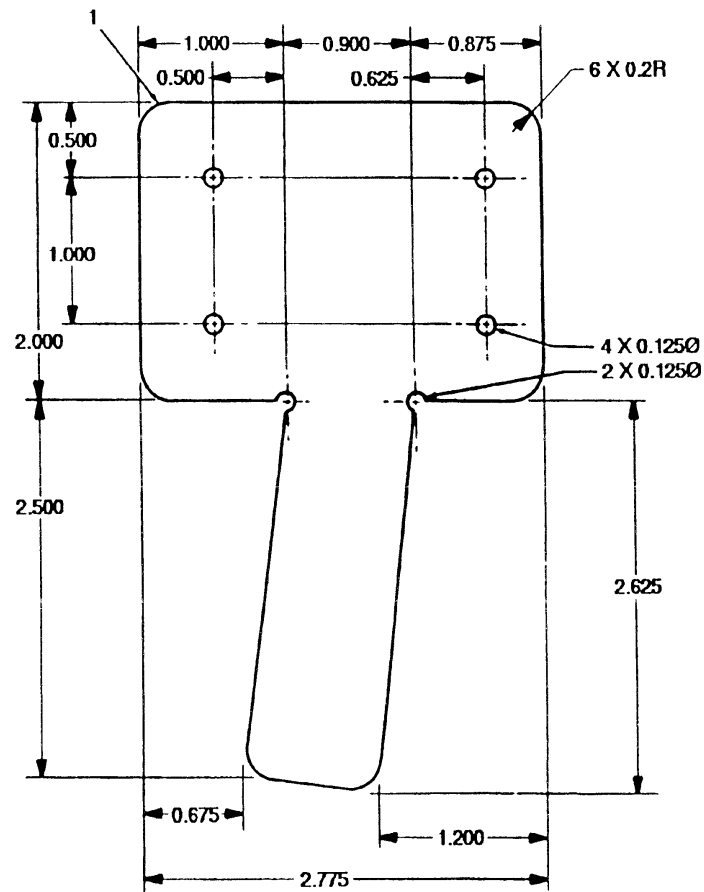
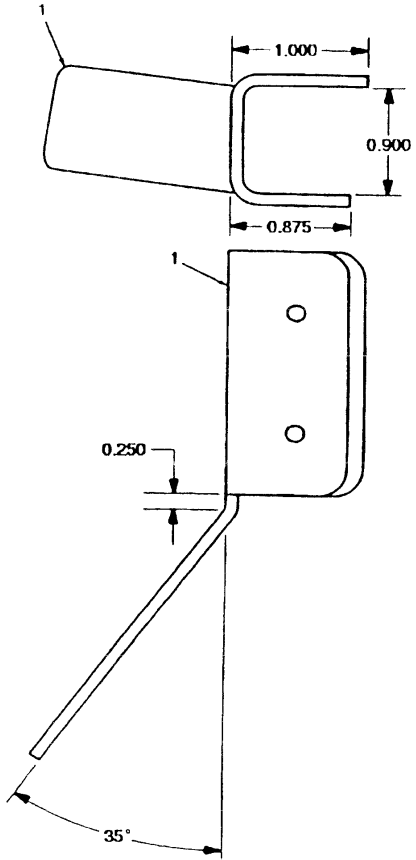

FIGURE 3-18
FIGURE 3-19
1. Use NSN 9535-00-541-7194 sheet metal, cut two reinforcement brackets (1). (see figure 3-18)
2. Locate, mark, and drill four 0.125-inch diameter holes in two reinforcement brackets (1).
3. Bend left reinforcement bracket (1). (see figure 3-19)